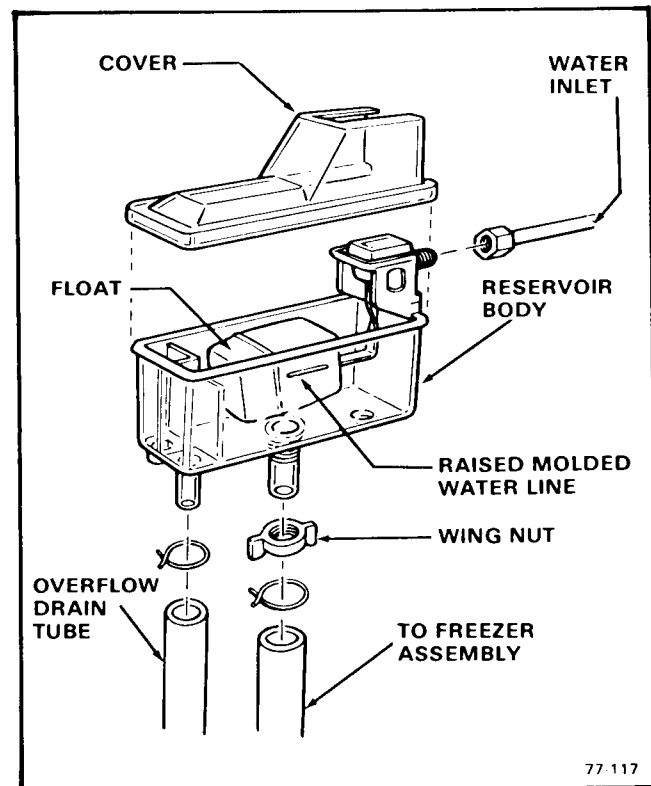

Figure 4-4. Removal of the Water Reservoir Assembly.
- A. To Remove the Water Reservoir Assembly, see Figure 4-4: